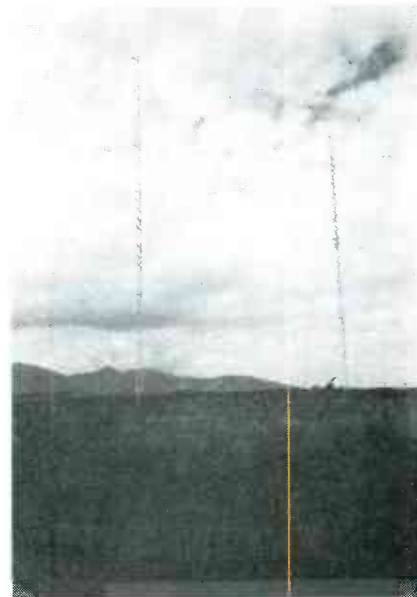

FIG. 4—TRANSMITTING TOWERS AT KUSW, IN Salt Lake City, UT.
- KUSW, of Salt Lake City, UT, is one of only two commercial U.S. shortwave broadcasters. It's part of Carlson Communications, which owns an AM/FM outlet there, and several others in the western U.S. KUSW runs a pop format, and runs several commercials, though really big accounts like Coca-Cola haven't yet been obtained. KUSW airs 18 hours a day on 5.980, 6.010, 6.185, 9.852, 11.980, 15.225, 15.580 and 17.715 MHz. Figure 3 shows a control room operator inspecting broadcast equipment at the station, and Fig. 4 shows the transmitting towers there.